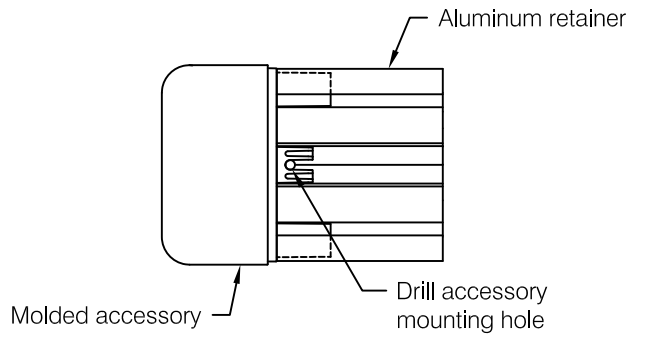

fig 4
Step 6: Insert molded accessories into end of retainer, press firmly to ensure molded part is seated squarely against the end of the retainer. Drill accessory mounting holes using the accessory as the template, see **fig 4**.